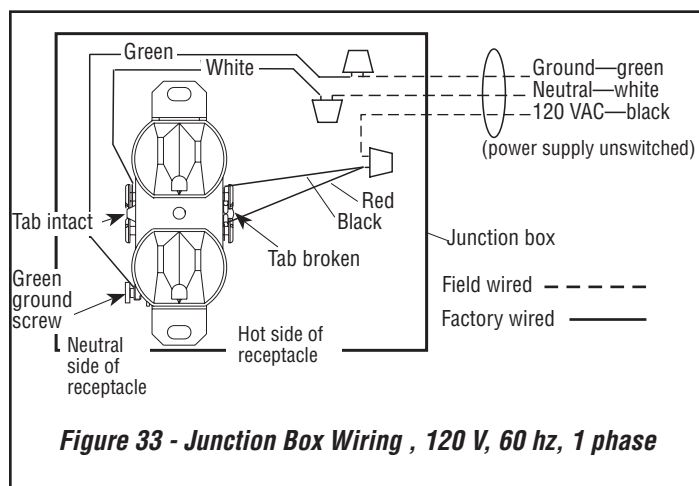

Figure 33 - Junction Box Wiring , 120 V, 60 Hz, 1 phase
3. Connect the black power supply wire to the power outlet red and black pigtails together (**Figure 33**). Connect the white power supply wire to the outlet common terminal.